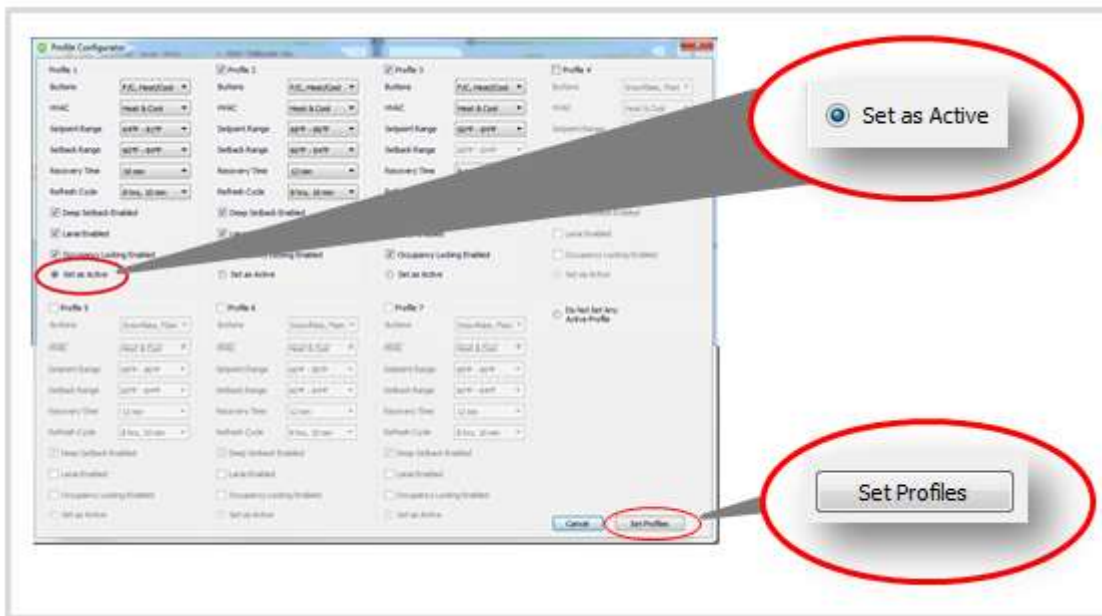

Figure 20
23. Check the **Set as Active** button in Profile #1 (Figure 20).